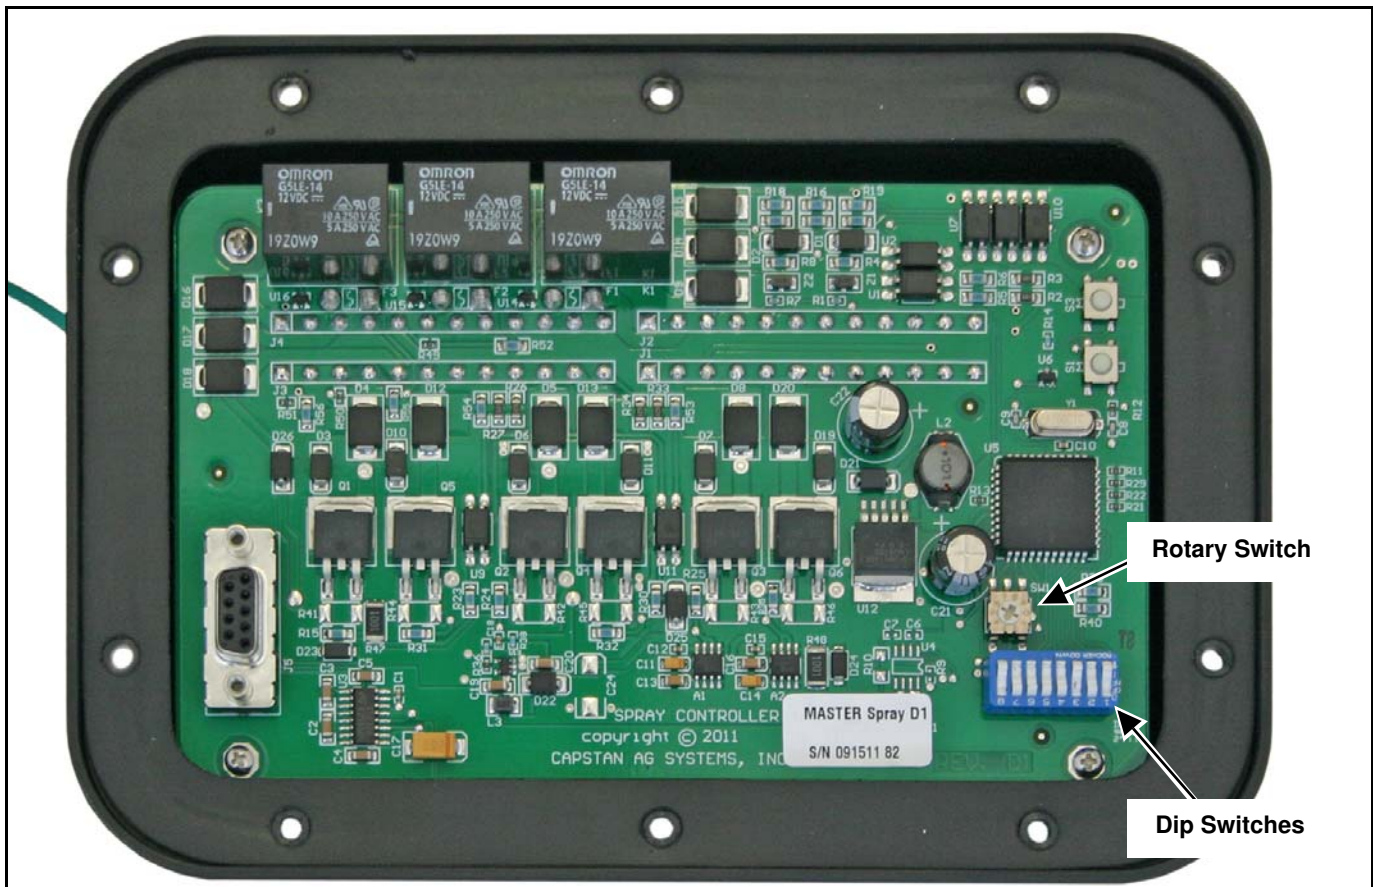

Figure 28
**[Figure 28]** - To access the master flow module circuit board, remove the enclosure cover and remove the cover from the master flow module.